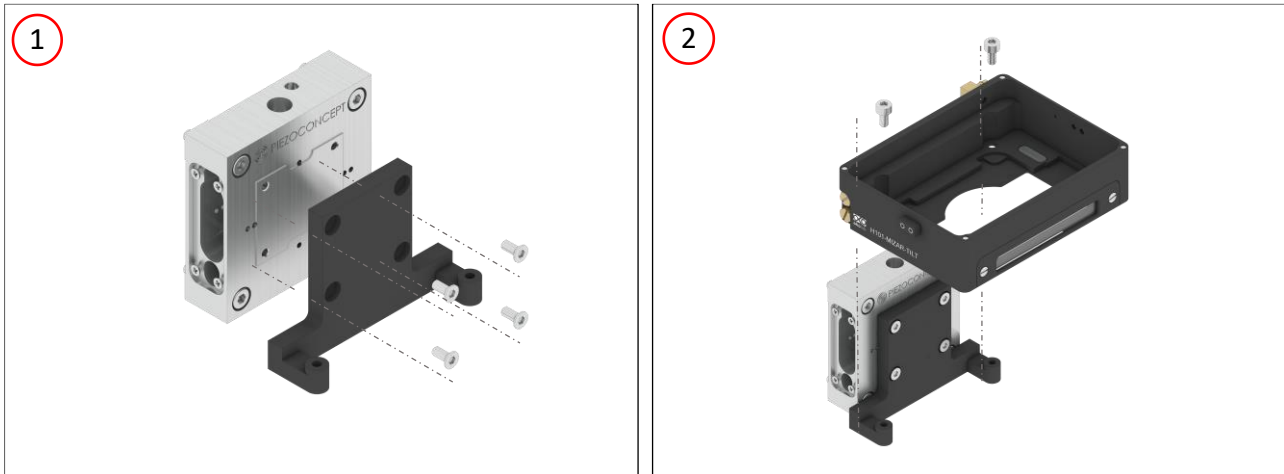

Figure 17. How to assemble the chamber to the stage.
To fix the H301-MIZAR-TILT on the stage, follow the steps listed below and shown in Figure 17:
5. Fix the bracket to the SLR.300 Piezoconcept Stage with four M2.5x6 screws (see Image 1 of Figure 17).
6. Fix the base of the chamber with two M3x6 screws on the bracket (see Image 2 of Figure 17).